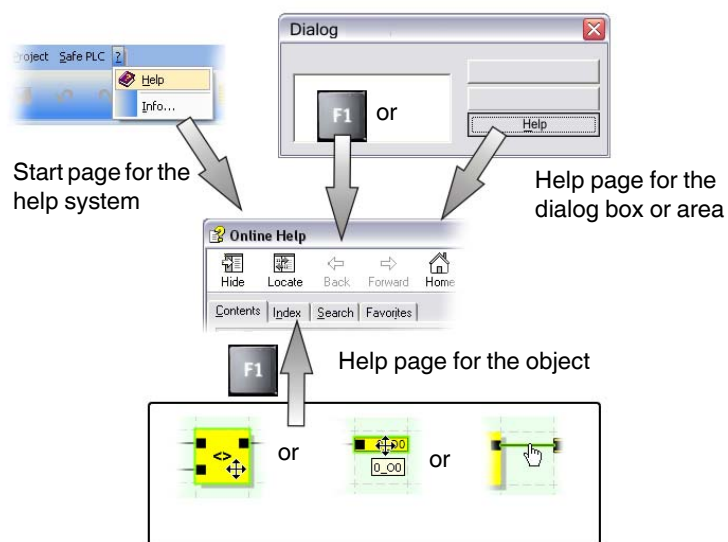

Figure 1-1 Calling the online help in the SAFECONF configuration software
- In the online help for the SAFECONF safe configuration software (see also Figure 1-1) and for each of the safe function blocks